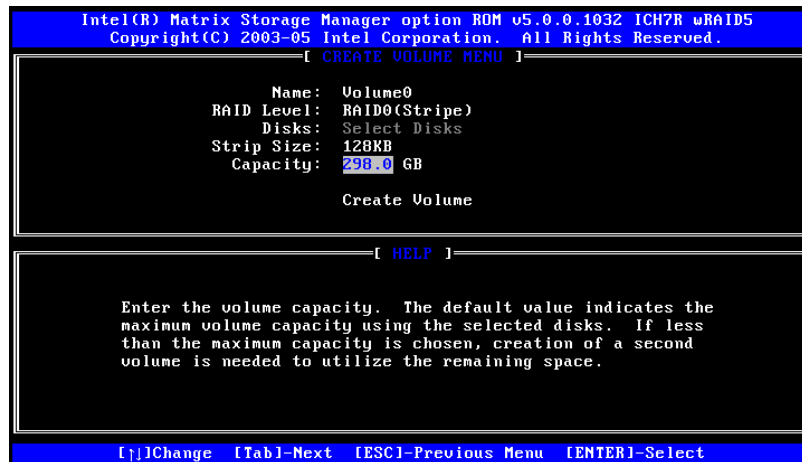

Figure E-5: Enter the Volume Capacity
Step 5: Enter the Volume Capacity. Enter the volume capacity, or press **ENTER** to accept the default capacity. See Figure E-5.